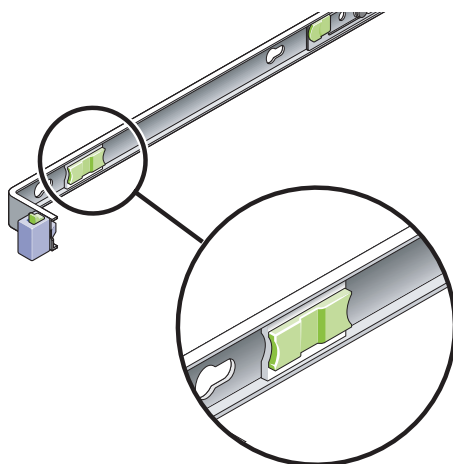

FIGURE 3-36 Slide Rail Release Button
7. **Simultaneously unlock both slide rail release buttons (FIGURE 3-36) and push the server completely into the rack.**